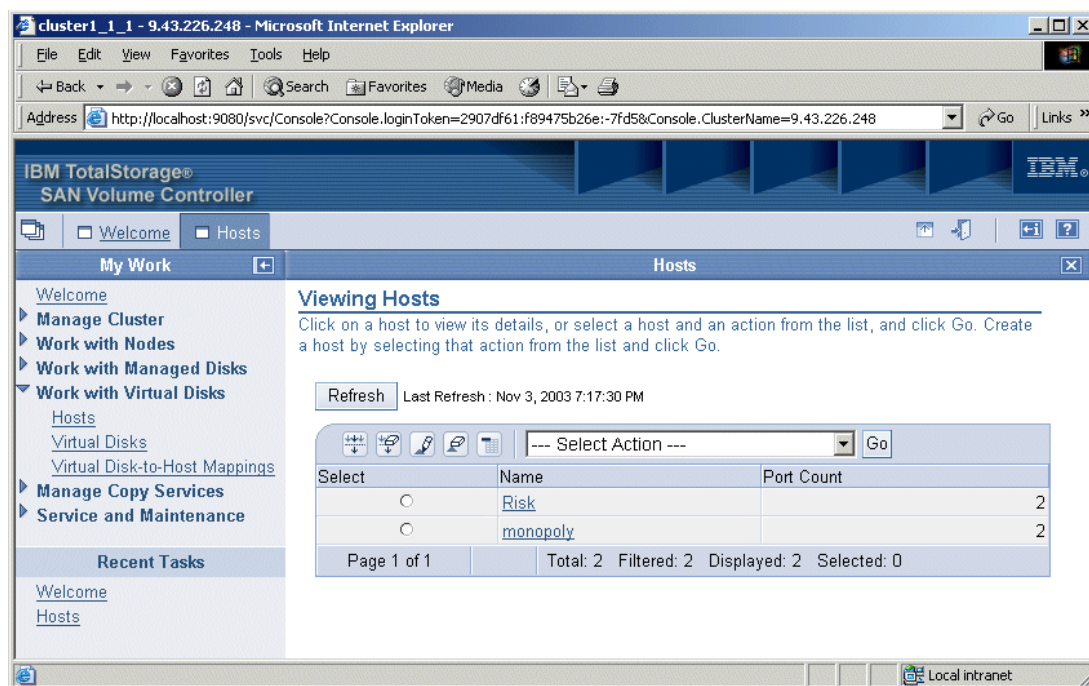

Figure 6-23 Host added successfully
5. You return to the Viewing Hosts panel (Figure 6-23) where you should see your newly created host.